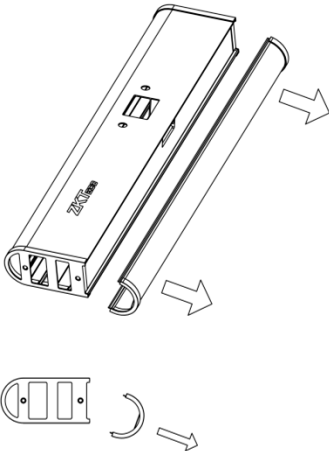

Figure 3-3
Step 3: Open the beam cover, as shown in the figure3-3 below.